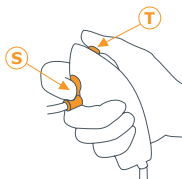

Figure 3:
- 8 Make a choice whether to start Ventrain ventilation with inspiration or expiration. Expiration is started by securely closing the index finger hole **S**. Inspiration is started by closing both the index finger hole **S** and thumb hole **T**. Both modes are shown in Figure 3 and 4.
- 9 Alternatingly open (assisted expiration) and close (inspiration) the thumb hole **T** to apply ventilation, while keeping the index finger hole **S** closed, as shown in Figure 3 and 4. Use an initial inspiration time and an expiration time of 1-2 seconds (depending on aimed tidal volume, see Table 2) each in case of adults. For paediatric situations or collapsed lung ventilation use an inspiration time and an expiration time of 0.5 s each.